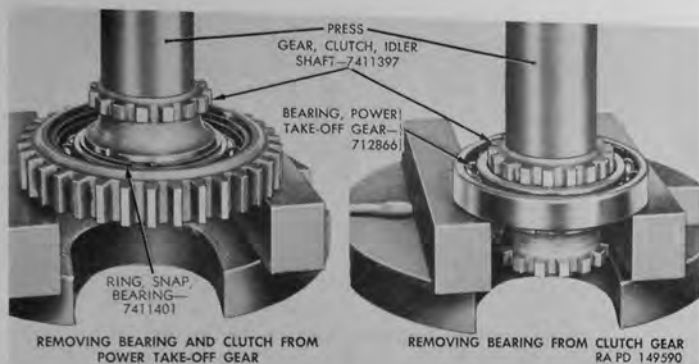

Figure 75. Power take-off gear and bearing removal.
- (1) Remove bearing snap ring (C) from groove in power take-off gear (E) at front side of power take-off gear bearing (D).
- (2) Support power take-off gear in arbor press and apply pressure at idler shaft clutch gear (B) to force clutch gear and power take-off gear bearing (D) out of power take-off gear (E). Refer to figure 75.
- (3) Remove bearing snap ring (A) from groove in idler shaft clutch gear (B) at front side of power take-off gear bearing (D). Place clutch gear and bearing assembly in arbor press
as shown in right view of figure 75 and press on clutch gear to separate clutch gear from bearing.